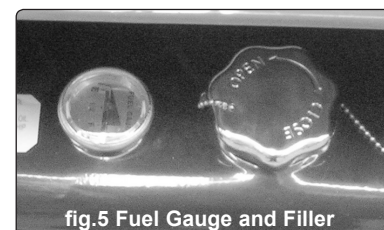

fig.5 Fuel Gauge and Filler
5.1.2. Fill the fuel tank (fig.5) with paraffin, kerosene or diesel until the fuel gauge points to "F". **DO NOT** mix the fuels, always drain and clean out the fuel tank when changing type of fuel.